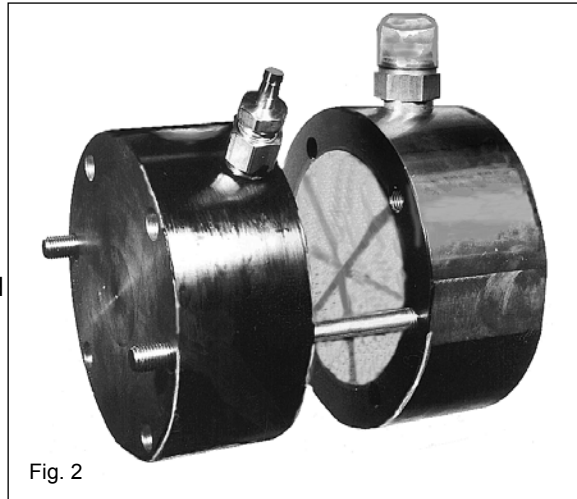

Fig. 2
Heavy diaphragm pump bodies should be suspended from lifting gear, or replace 2 screws by two longer screwed bolts (see fig. 2). Take off diaphragm pump body (26) by removing screws and, if necessary, pull off perforated disc (33) or diaphragm intermediate element (35) in forward direction.